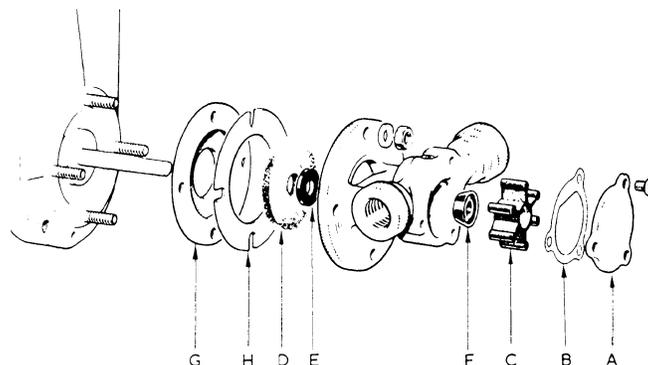

FIG. 8
## 3. TO REMOVE WATER PUMP Fig. 8 (WPD-3 Generator)
4. TO REPLACE WATER PUMP Fig 8. WPD-3 Generator
- a. Replace the water pump adaptor (G) and shim (H), if removed. Replace the water sealing washer and water slinger, leaving a gap between them.